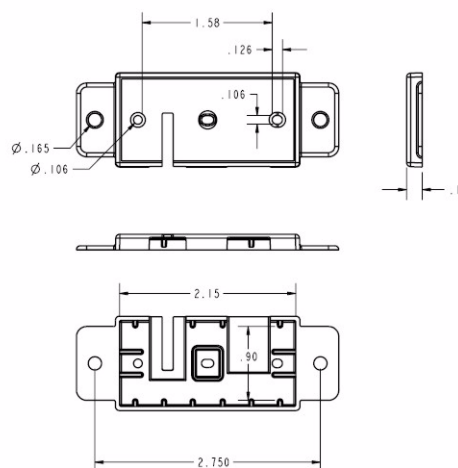

Figure 7 - Dewpoint Sensor Dimensions
**Figure 7** shows the mounting dimensions.